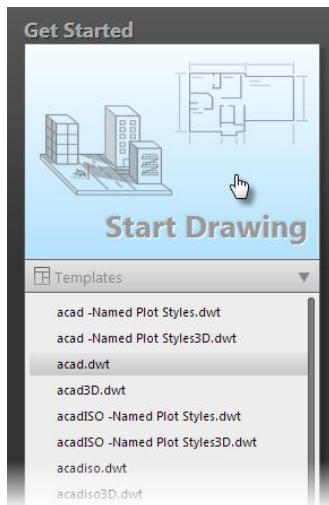

FIGURE 2.2: Choosing the `acad.dwt` template from the Get Started panel of the New Tab
2. Under the Start Drawing tool, click the disclosure triangle for Templates, and then select the `acad.dwt` file (`acadlt.dwt` for AutoCAD LT users) as shown in Figure 2.2.
3. With the correct drawing template selected, click the Start Drawing tool shown in Figure 2.2 to open a new blank drawing.